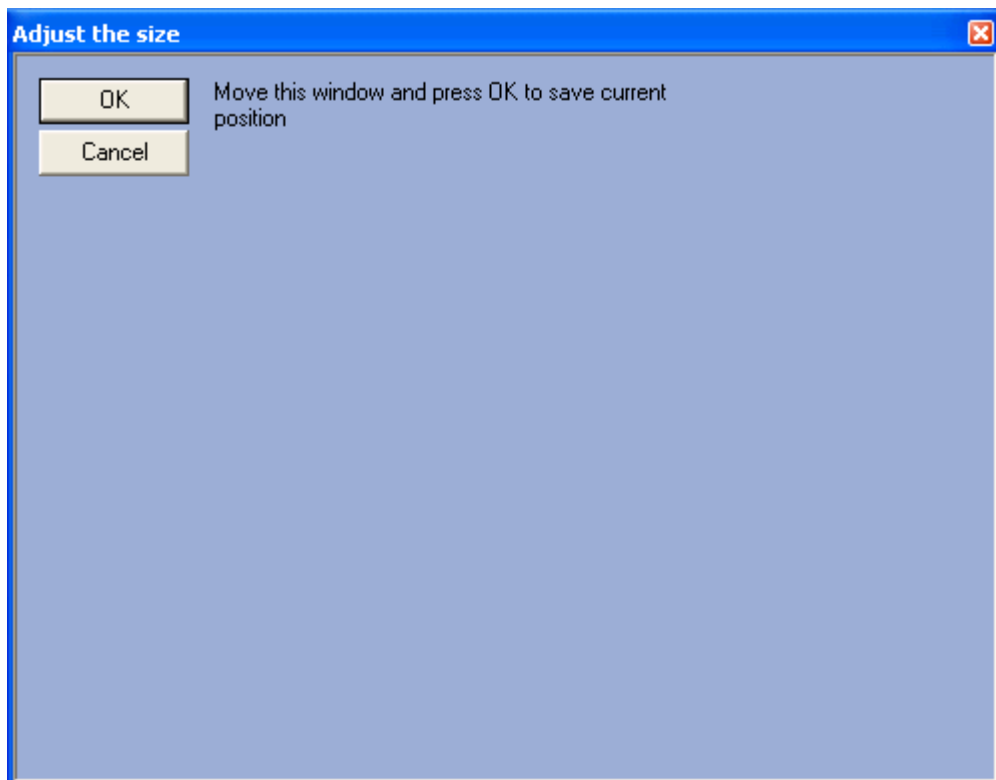

Fig. 7.8-3 Visual method of setting up the coordinates
*Note 2. To set the coordinates and sizes of the Vehicle tracer component in a convenient way it is recommended to use the visual method of setting up the coordinates (Fig. 7.8-3). Click «» button for this (Fig. 7.8-2, 4) and, using the mouse, set the required size and position of the test window and then click «OK» (Fig. 7.8-3). Coordinates of the test window are automatically calculated and copied to the fields «X», «Y», «W» and «H».*